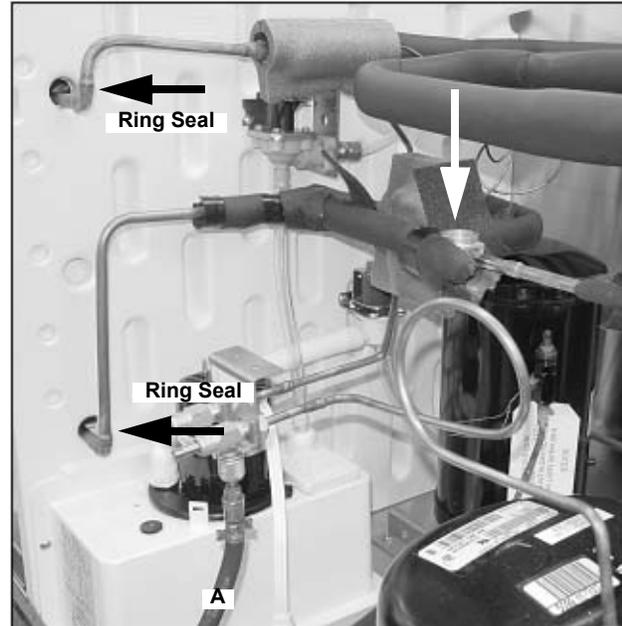

Figure 23.
18. Remove the bulkhead seals at the front of the evaporator assembly. Remove the insulation from the evaporator inlet and outlet lines (Figure 23). Remove enough insulation to safely disconnect these lines.
Attach a nitrogen feed (A) to the low side service valve (5-10 psi) (Figure 23).
As power to the unit has been disconnected, disassemble the hot gas valve to allow nitrogen to flow through the entire system (Figure 23).